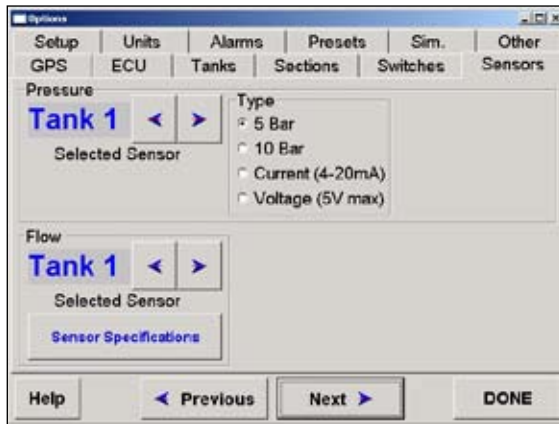

Figure 8-13. Options>Sensors Page>
1. Select the **Sensor Specifications** button (Figure 8-13 on page 8-42) to do a manual entry with **Current** selected
1. Select the **Sensor Specifications** button (Figure 8-13 on page 8-42) to do a manual entry with **Voltage** selected